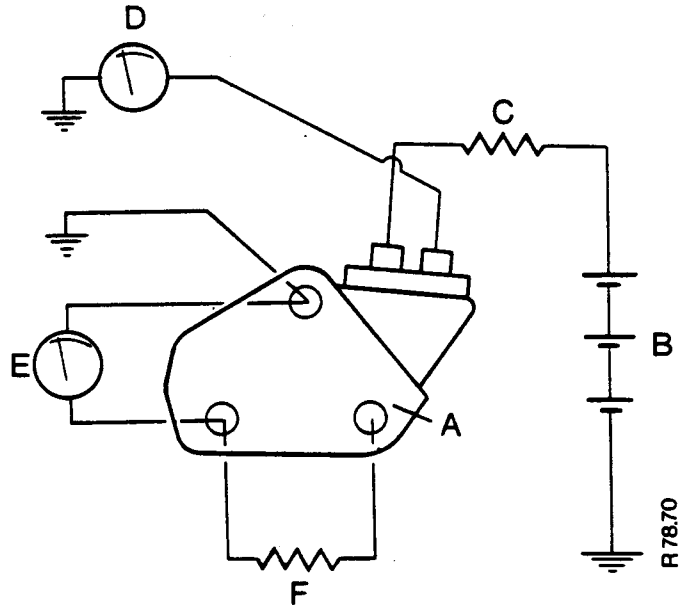

Figure H36
1. Make a test circuit as shown in Figure H36.